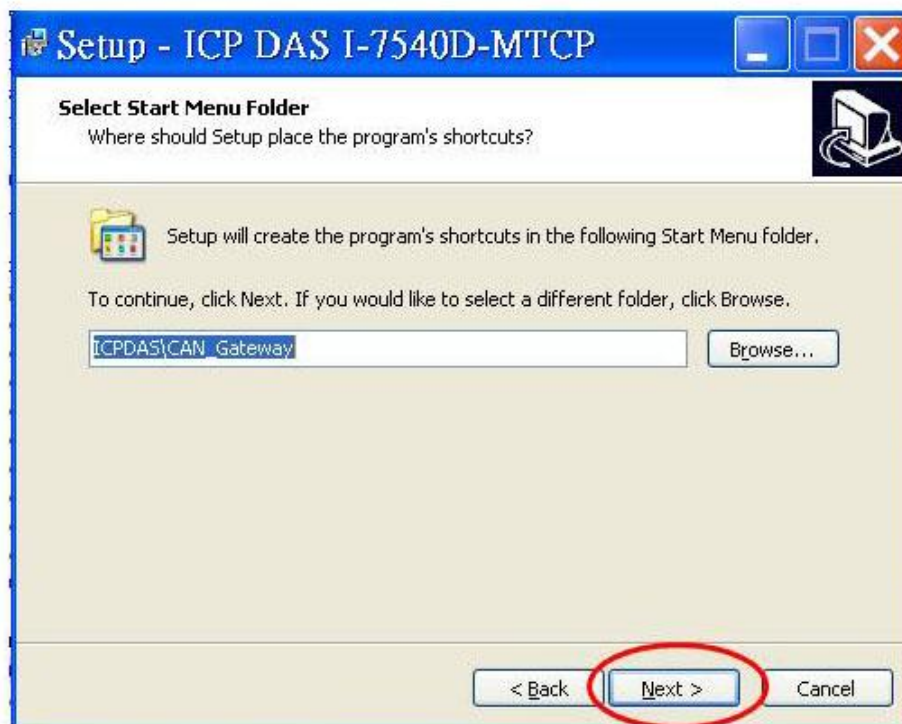

Figure 3-4: "Ready to Install the Program" dialog
Step 5: Click "Next" button and a "Ready to Install the Program" window will pop up to prompt user that the wizard is ready to begin the installation. See figure 3-4.